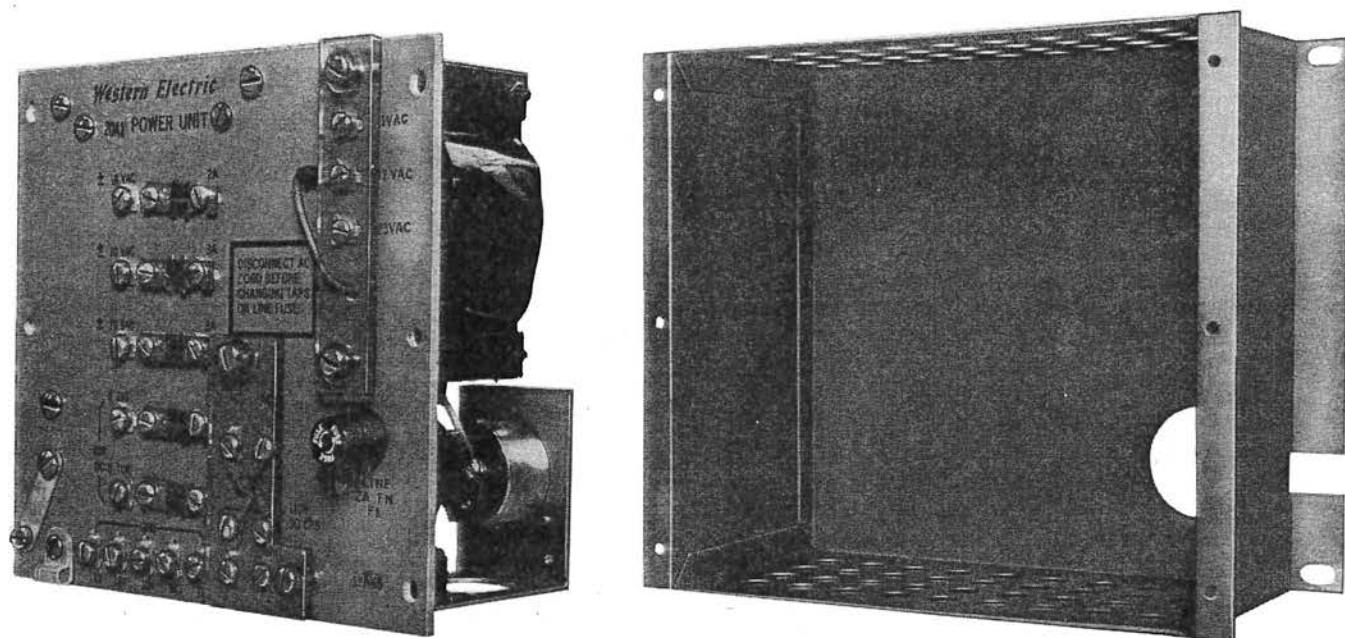

Fig. 2
**20CW2:** Same as 19CW2 Power Unit except in addition, equipped with a 113A Frequency Generator within the unit for ringing power. See Fig. 2.